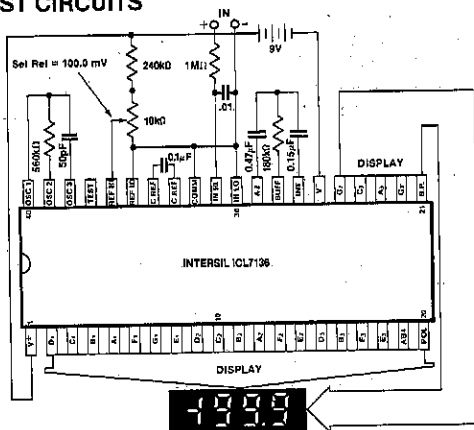

Figure 1. 7136 Clock Frequency 16kHz (1 reading/sec)
**Note 3:** Unless otherwise noted, specifications apply at  $T_A = 25^\circ\text{C}$ ,  $f_{\text{clock}} = 16\text{kHz}$  and are tested in the circuit of Figure 1.